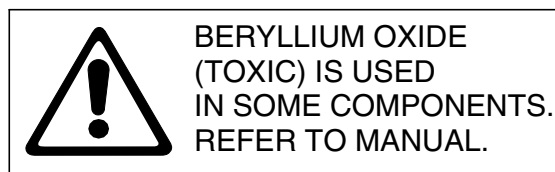

Figure 4. Beryllium Oxide label
- Figure 4. Beryllium Oxide label **17**
The equipment containing BeO carries a Beryllium Oxide label, as shown in Figure 4.